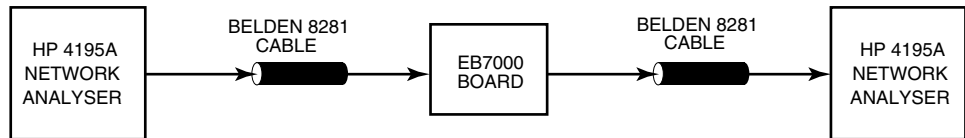

Fig. 1c Test Setup for Return Loss Measurements
6. Evaluated using test setup Figure 1c.